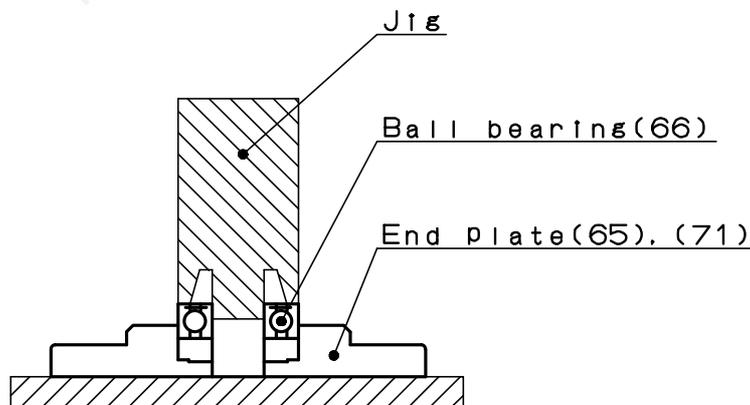

Fig.21
①Press Ball bearing(66) into the bearing recess on each End plate(65),(71) using a jig and hand press (See Fig. 21).